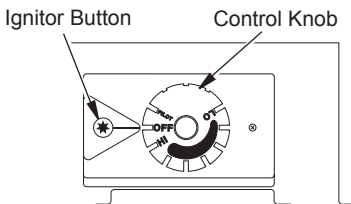

Figure 28 - Control Knob In The OFF Position
4. Wait five (5) minutes to clear out any gas. Then smell for gas, including near the floor. If you smell gas, STOP! Follow "B" in the safety information starting in column 1. If you don't smell gas, go to the next step.
5. Turn control knob counterclockwise  to the PILOT position. Press in control knob for five (5) seconds (see Figure 28, page 20).